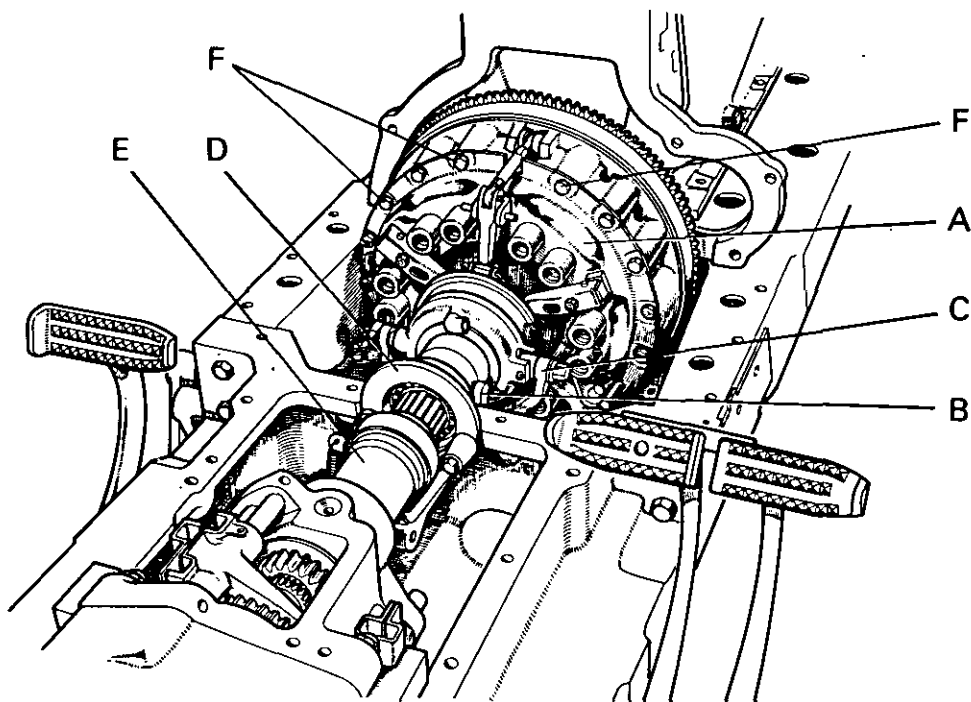

Figure 9. 1200 TRACTOR WITH CLUTCH HOUSING AND GEARBOX COVER REMOVED
8. Remove gearbox cover — five bolts into rear axle case, four bolts into clutch housing and 14 bolts into main frame (two of these are inside steering cavity). (Fig. 9.)